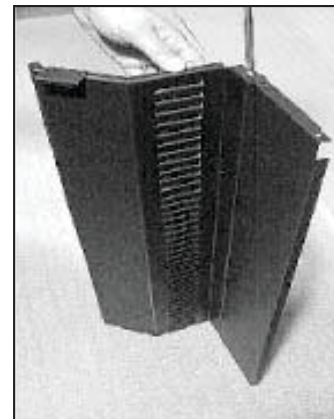
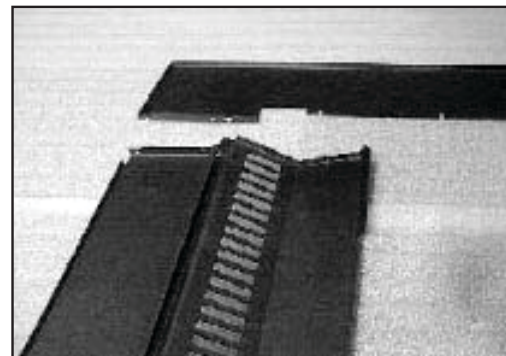

Figure 24.4
Figure 24.5
3. Stand assembly on end and attach and install (1) 8-32 x 3/8 inch screw through tab in side panel and curtain. **Figure 24.4**. Lay face down as shown in **Figure 24.5**.